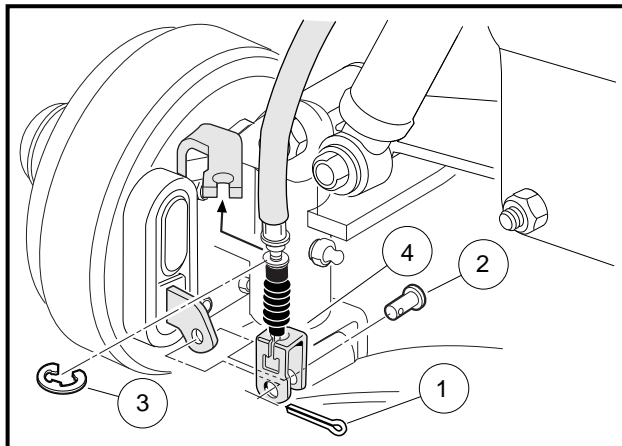

Figure 7-20 Connect Front Brake Cables
- 2.1. Remove the cotter pins (1), brake cable clevis pins (2), and cable retaining clips (3). Remove the brake cables (4) from the spindle brackets **(Figure 7-20, Page 7-16)**.
7. Connect the front brake cables on four-wheel brake vehicle in reverse order of disassembly (**Figure 7-20, Page 7-16**).